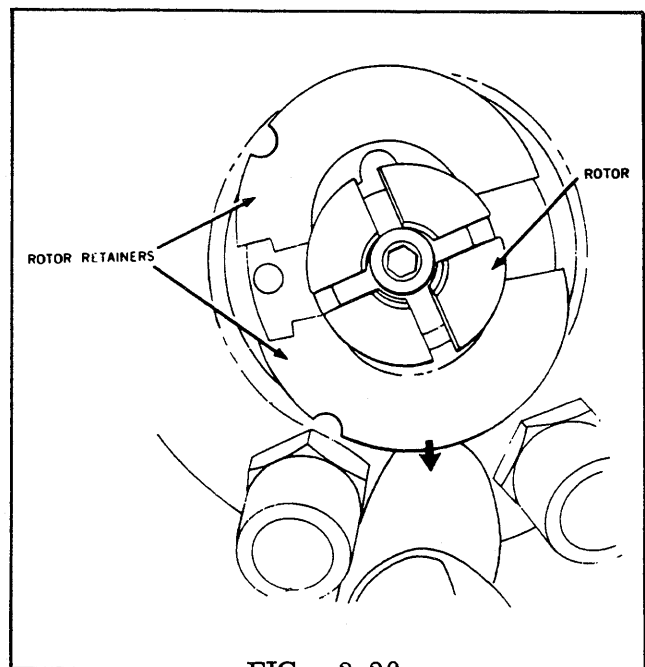

FIG. 3.20
STEP 20 Remove the rotor retainers (Fig. 3.20).